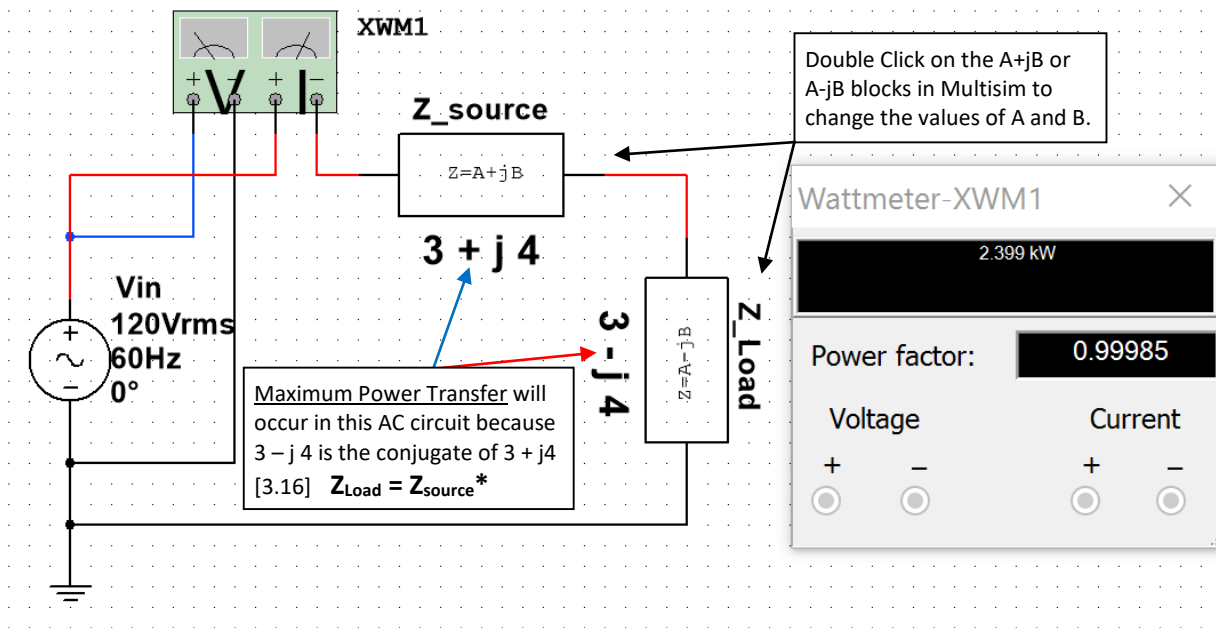

Figure 3.25: Circuit including Multisim Z\_loads for Example 3.10.
- The Load impedance must be  $3 - j 4$  for maximum power transfer (as shown in Figure 3.25).